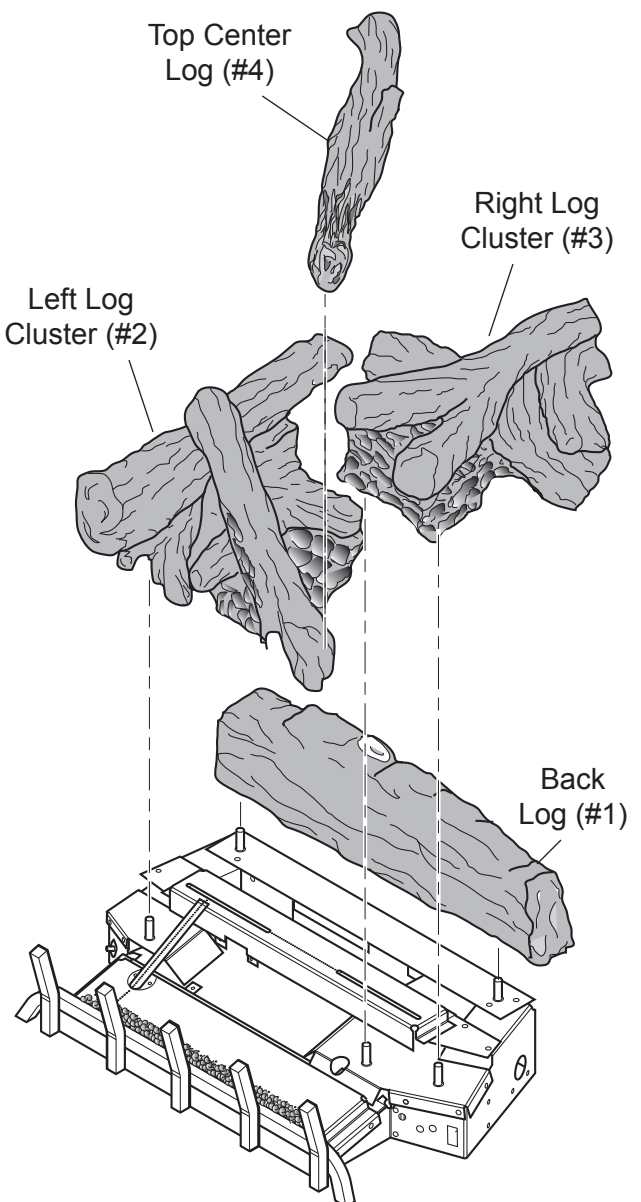

Figure 21 - Installing Logs on Grate
1. Install back log (#1) on two pins located near the back of base. Check log position and stability. *See Figure 21.*
2. Install left log cluster (#2) on pin located near left edge of base. *See Figure 21.*
3. Install right log cluster (#3) on two pins located on right side of base. *See Figure 21.*
4. Rest end of top center log (#4) on rear log. Place front end of top center log where right and left cluster logs meet. *See Figure 21.*